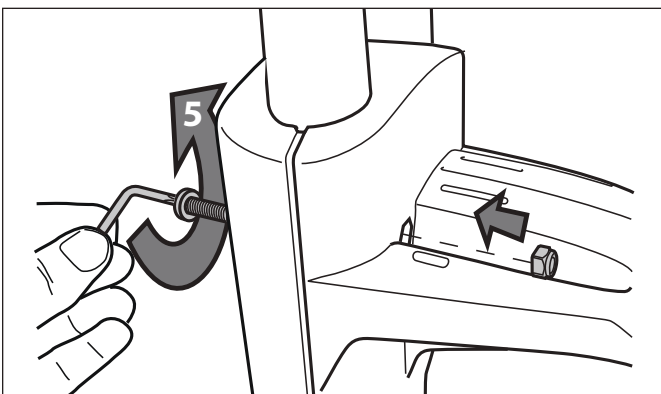

Figure 5. Secure the Cable Hook Plate
3. Secure the cable hook plate using two (2) bolts and two (2) nuts and tighten with Torx wrench. Refer to Figure 5.